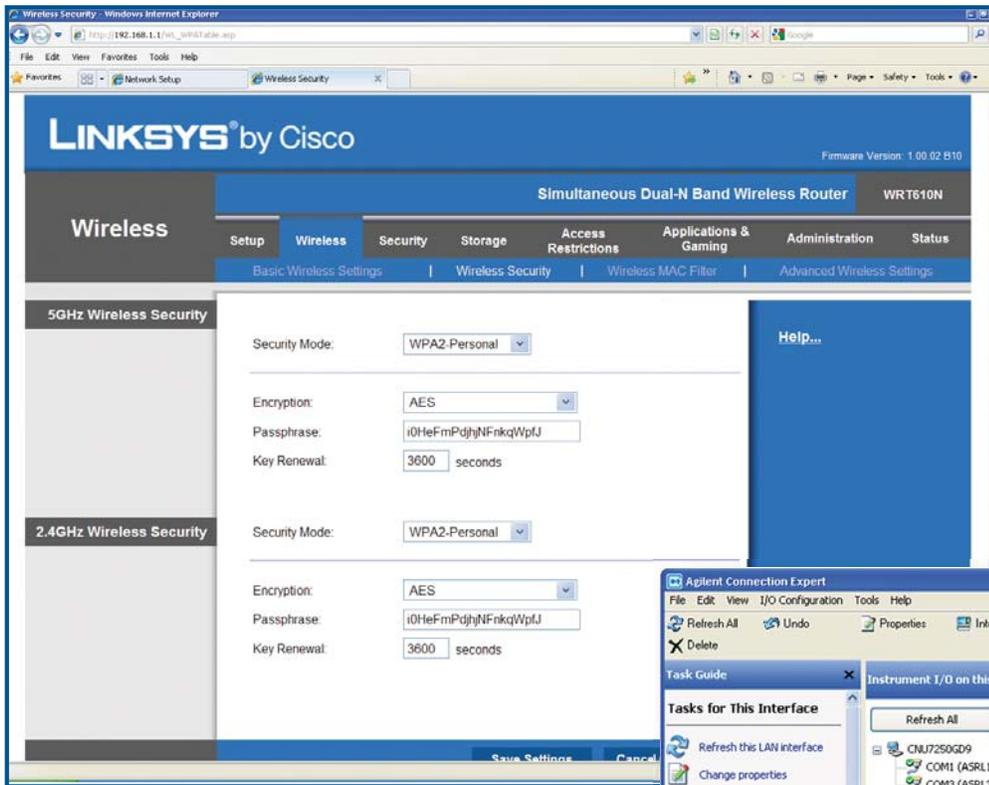

FIGURE 3. Set up the wireless router using the built-in Web server (security window shown here).
- Using the router Web server home page, configure the wireless router settings (see **Figure 3**):
- Reduce the chance of a “brute force” attack by using at least 13 random characters to create your passphrase. Notice in **Figure 3** the WPA2 mode with AES encryption and strong passphrase.